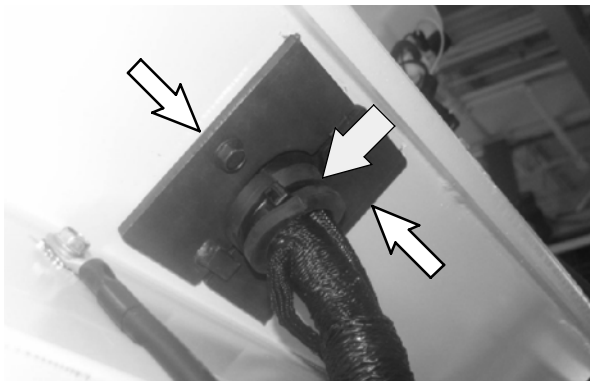

FIG. 20
34. Remove the plates and grommet from the bottom of the cab. Set the plates, grommet and hardware aside. Refer to Fig. 20.
35. Route the arrow stick cable assembly (2) out through the hole at the bottom of the cab and along the wire harness. Refer to Fig. 20.
36. Reinstall the grommet and plates onto the bottom of the cab. Refer to Fig. 20.